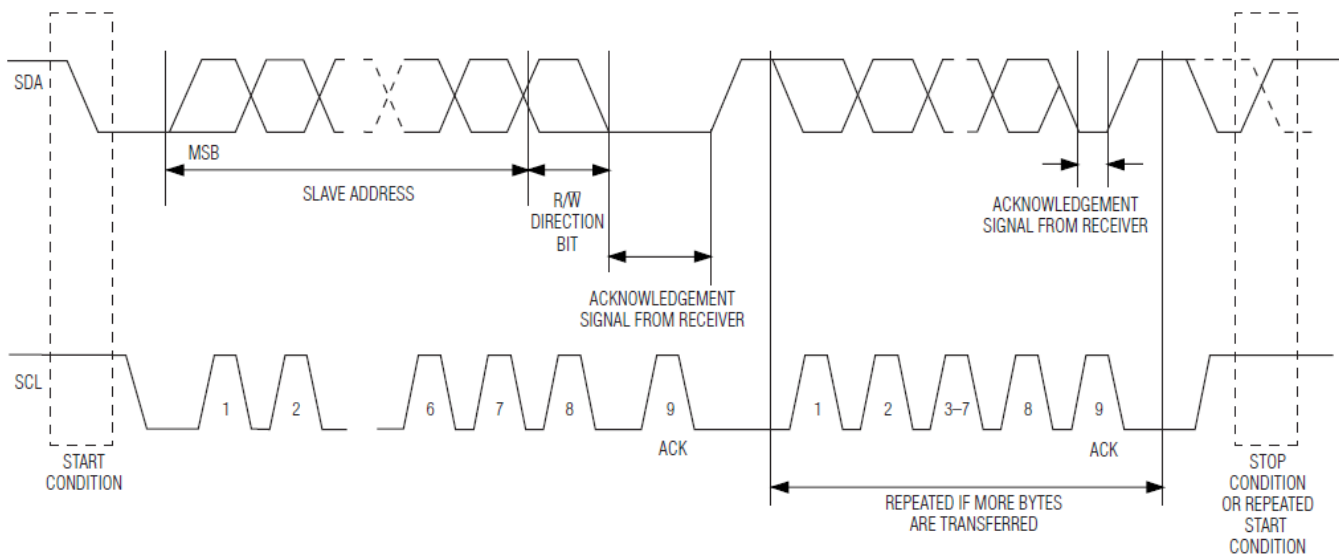

Figure 6. 2-Wire Data Transfer Protocol
The 2-wire serial-port interface supports a bi-directional data transmission protocol with device addressing. Connections to the bus are made through MOD_DEF2 and MOD_DEF1. Timing diagrams for the 2-wire serial port can be found in Figure 6. Within the bus specifications, a standard mode (100kHz clock rate) and a fast mode (400kHz clock rate) are defined.
- **Data valid:** The state of the data line represents valid data when, after a START condition, the data line is stable for the duration of the high period of the clock signal. The data on the line can be changed during the low period of the clock signal. There is one clock pulse per bit of data. Figure 6 detail how data transfer is accomplished on the 2-wire bus.
- **START Condition:** A high-to-low transition of MOD_DEF2 with MOD_DEF1 high is a START condition that must precede any other command. See the timing diagrams in Figure 6 for further details.